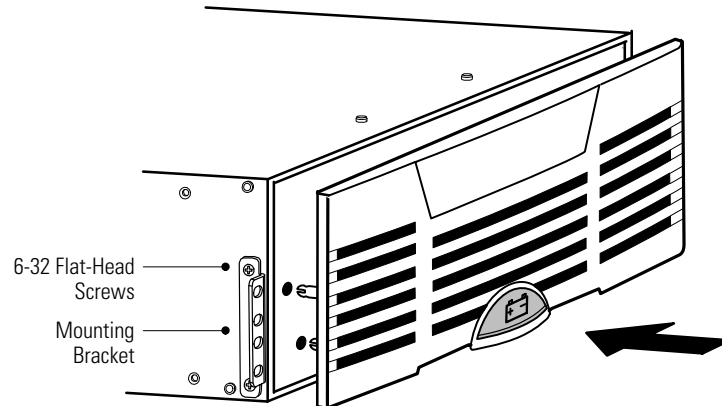

Figure 40. Installing the EBM Mounting Brackets
8. If the mounting brackets are not already installed, align the two mounting brackets with the screw holes on the side of the EBM and secure with the supplied 6-32 flat-head screws (see Figure 40).
Align the pins on the rear of the front cover with the openings in the EBM. Push the cover firmly into place. See Figure 40.